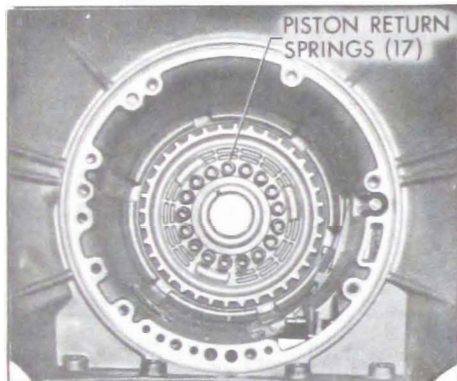

Figure 5-290
4. Install seventeen (17) clutch piston return springs. See Figure 5-290.